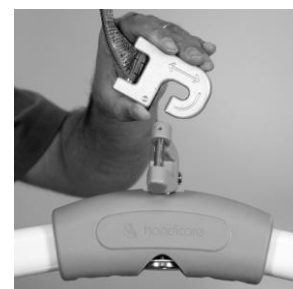

Figure 12: Remove the Hook
4. Remove the carry bar from the quick release hook (figure 12).